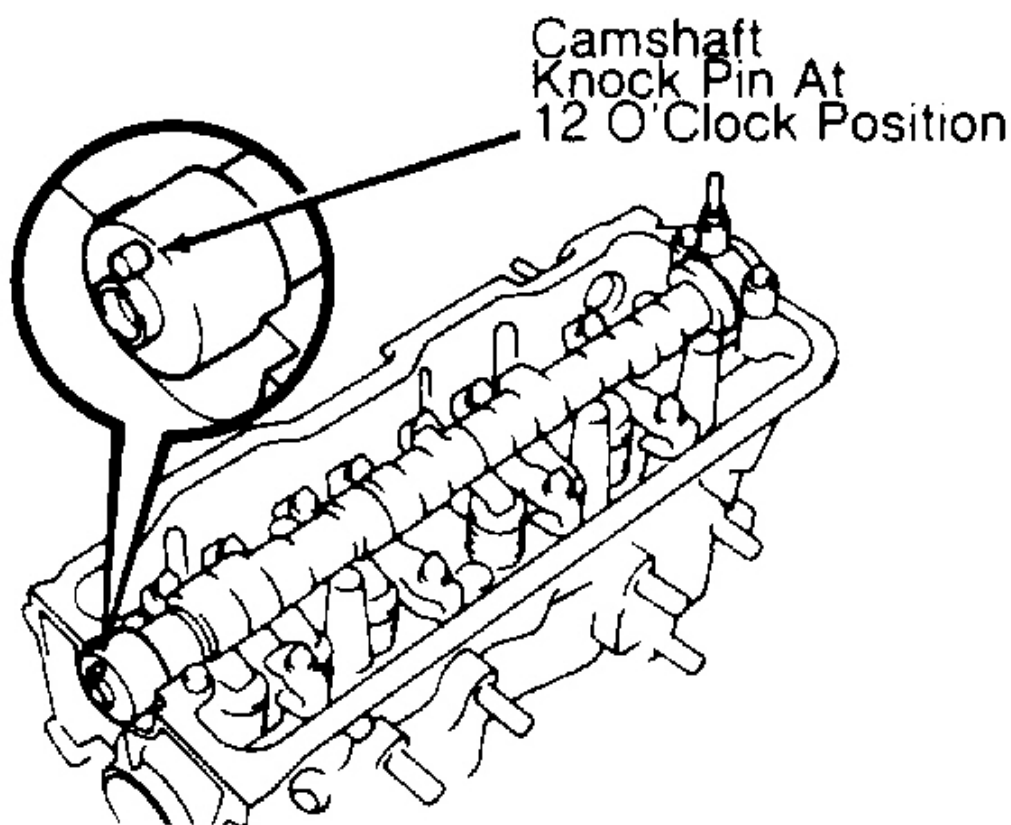

Fig. 11: Installing Camshaft
1. Set No. 1 cylinder at TDC on compression stroke. Coat all bearing journals with engine oil. Position camshaft knock pin at the 12 o'clock position. See **Fig. 11**.